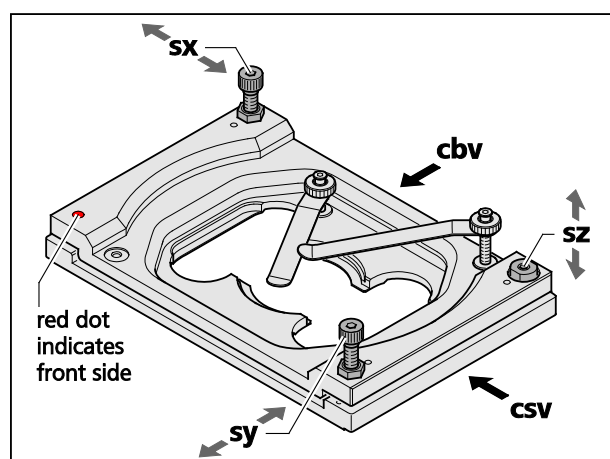
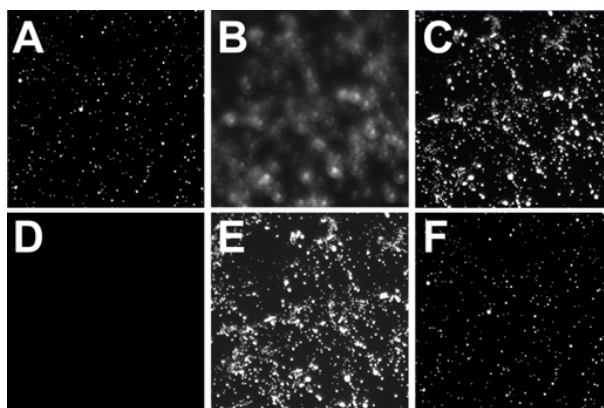

Fig. 6 Adjustable sample holder – schematic view
Fig. 7 Focus control in epi-fluorescence
1. Take a fluorescent sample like embedded beads and mount centrally over the objective. (Note: you can also use your own fluorescent sample). Use WF illumination with the X-Cite or laser light and focus manually onto the sample using the stand's focus drive (Fig. 7/A).
- b) If the sample is out of focus (Fig. 7/B) refocus manually by using the stand's focus drive (Fig. 7/C); otherwise no further leveling is necessary. Record the relative change in the focus position by reading the value in the **Z-Position** input box of the **Focus** tool. If the focus is off more than 10 μm it is recommended to do a pre-adjustment. To this end adjust the edges of the clefts viewed from the right side (Fig. 6/csv) and back side (Fig. 6/cbv) to be parallel using screws **sy** and **sx**, respectively (Fig. 6). The cleft's width should be approximately 2 mm as preset by the factory, but can be adjusted with screw **sz** if needed.
- c) Multiply that value with **55** and manually set the focus onto this value using the stand's focus drive (Fig. 7/D). (Note: The factor **55** is only accurate, if the sample was positioned in the center.)
- d) Use the back left screw (Fig. 6/sx) of the sample holder to readjust the focus (Fig. 7/E). Turn clockwise if the focus position was positive, counter clockwise if it was negative. (Note that one turn corresponds to approximately 125 μm).
- e) Press the lower pointing arrow of the **X** input box of the **Stage** tool to return to the initial position. If the image is in focus (Fig. 7/F) X leveling is complete; otherwise repeat steps 3a) - e) iteratively. If applicable, the multiplication factor of 3c) can be adjusted.
- a) Enter in the **Stage** tool in the **Step [μm]** input box "1000". Press the upper or lower pointing arrow of the **Y** input box, whatever is required to step 1000 μm upwards in the Y direction (Fig. 7/A).
- b) If the sample is out of focus (Fig. 7/B) refocus manually by using the stand's focus drive (Fig. 7/C); otherwise no further leveling is necessary. Record the relative change in the focus position by reading the value in the **Z-Position** input box of the Focus tool.
- c) Multiply that value with **40** and manually set the focus onto this value using the stand's focus drive (Fig. 7/D). (Note: The factor **40** is only accurate, if the sample was positioned in the center.)
- d) Use the front right screw (Fig. 6/**sy**) of the sample holder to readjust the focus (Fig. 7/**E**). Turn clockwise if the focus position was positive, counter clockwise if it was negative. (Note that one turn corresponds to approximately 125 μm).
- e) Press the lower pointing arrow of the **Y** input box of the **Stage** tool to return to the initial position. If the image is in focus (Fig. 7/**F**) Y leveling is complete; otherwise repeat steps 4a) - e) iteratively. If applicable, the multiplication factor of 4c) can be adjusted.